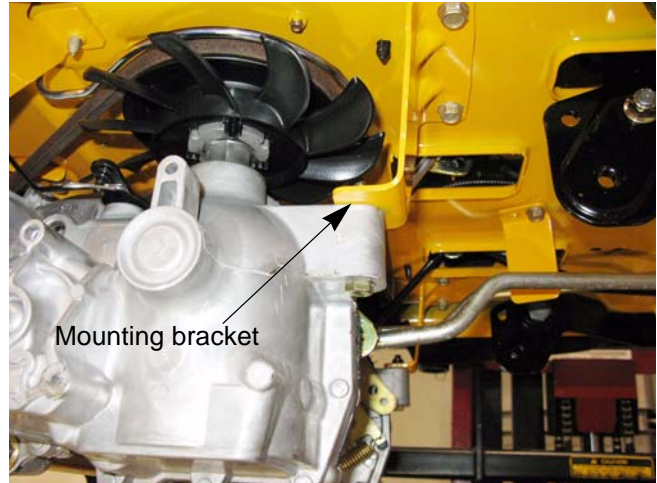

Figure 4.27
8. Remove the nut and bolt that holds the front of the transmission to the mounting bracket using a pair of 1/2" wrenches. See Figure 4.27.